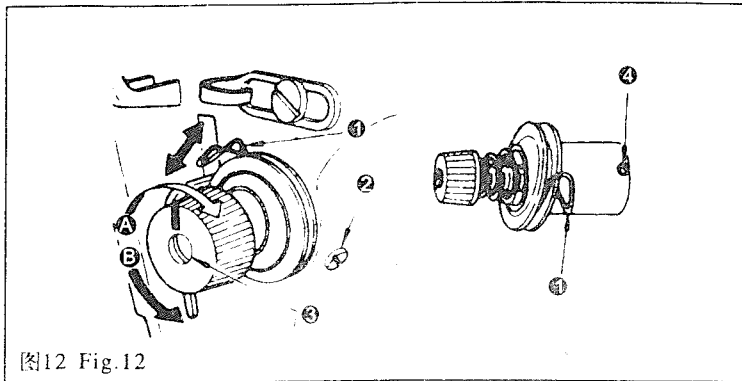

图12 Fig.12
- 1) As you turn tension adjust screw ③ clockwise (in direction ⑤), the bobbin thread tension will be increased.
- 2) As you turn screw ③ counterclockwise (in direction ⑥), the bobbin thread tension will be decreased.
8. 挑线簧(图12) 8. THREAD TAKE-UP SPRING (Fig.12)